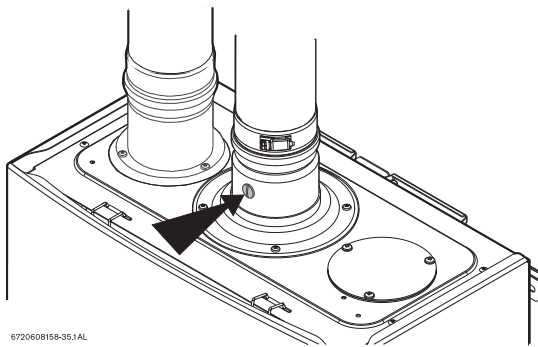

Fig. 55 Measuring port
- ▶ Remove brass flat head screw on the exhaust collar as seen in Fig. 55.